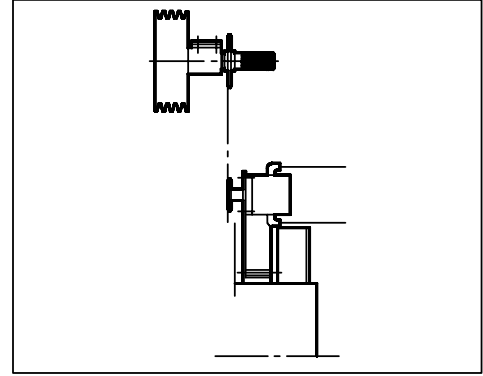

Figure 4. Align the chain / belt pulleys with each other without the chain/belt.
5. Align the chain pulleys with each other by moving the hydraulic unit / raising feet in their runners. Carry out the alignment very carefully. See Figure 4.